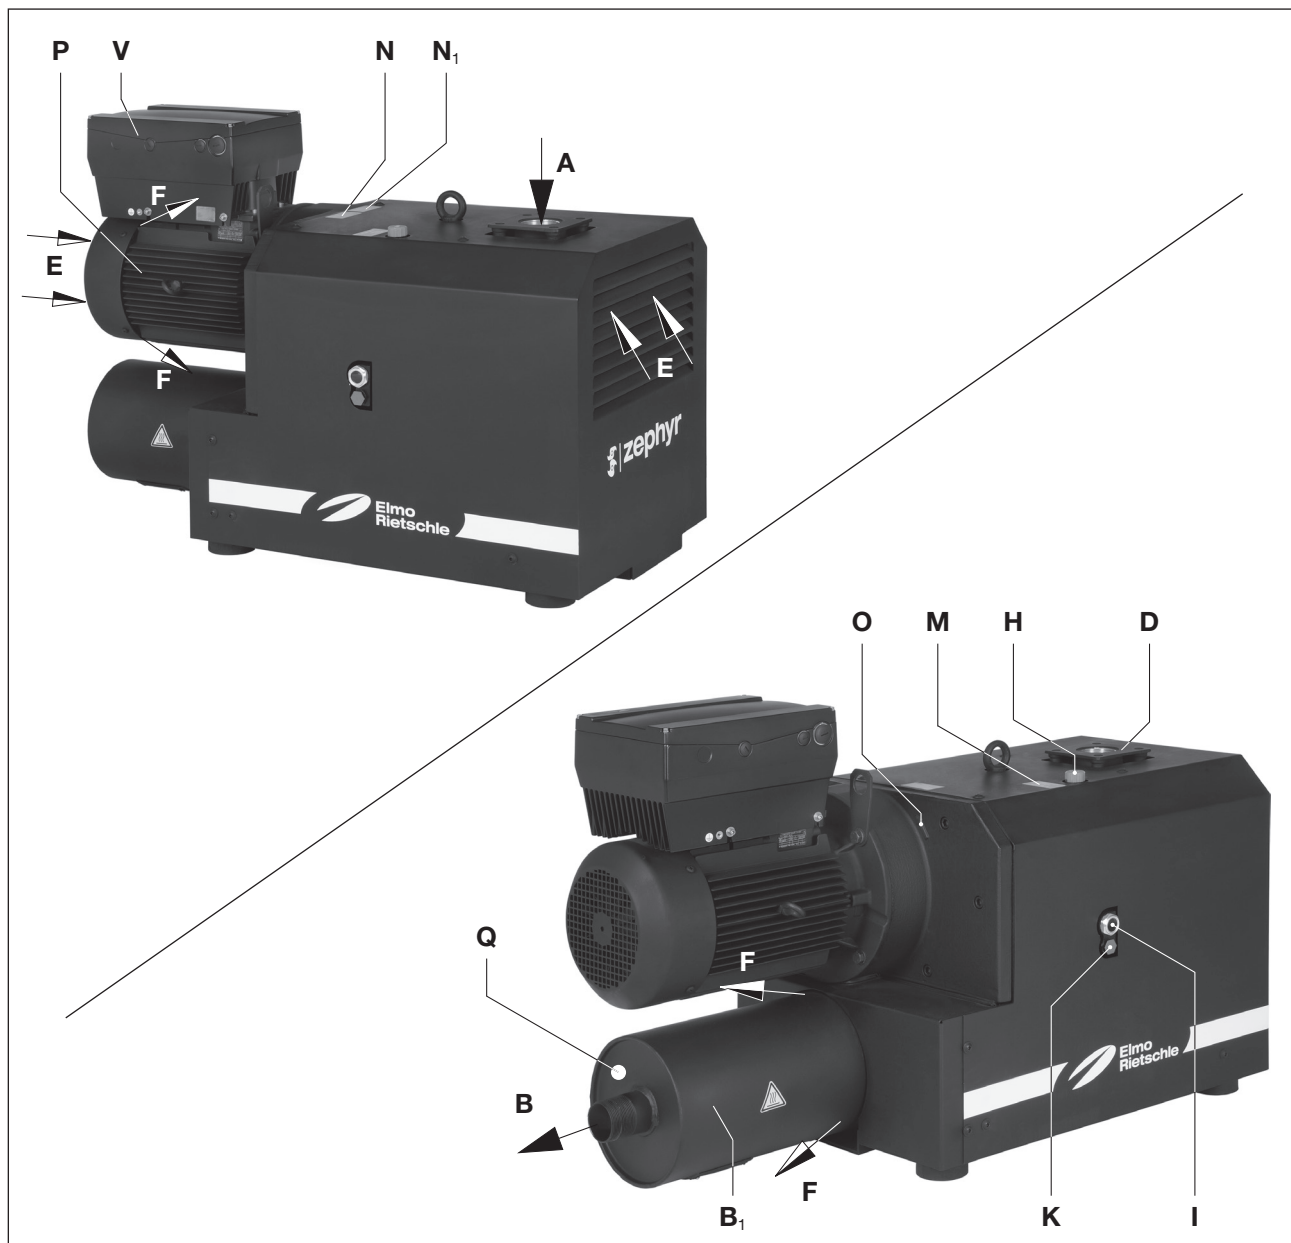

Fig. 2 Vacuum pump C-VLR 301 (F001)
- the machine must only be operated at speed- and frequency range according to the data plate (Fig. 2/N1)
The C-VLR 301 (F001) model has a connection flange on the inlet side and an exhaust silencer on the pressure side (Fig. 2/B1). The C-VLR 301 (F002) model has a vacuum gauge (Fig. 2/Y), a suction filter (Fig. 2/S1) on the inlet side and an exhaust silencer on the pressure side (Fig. 2/B1). An integral non-return valve prevents the evacuated system from being ventilated after the pump has stopped.
The gearbox and the compression chamber are separated from each other by special seals. The gearbox is sealed from the outside with shaft seals and O rings, the compressor chamber with piston rings. The VLR 301 is enclosed in an insulating hood. In order to dissipate compression heat, the cooling air is sucked through between the machine and the hood using a drum fan that sucks in the fresh cooling air (Fig. 2/E) and discharges the heated air out of the cooling air outlet (Fig. 2/F).
Three-phase motor with integral frequency converter (Fig. 2/V) makes possible infinitely variable control of the speed.
The oil filling point (Fig. 2/H), oil sight glass (Fig. 2/I) and the oil outlets (Fig. 2/K) must be easily accessible. The cooling air inlets (Fig. 2/E) and the cooling air outlets (Fig. 2/F) must be at least 30 cm away from adjacent walls. Cooling air coming out must not be sucked in again. For maintenance work there must be a minimum of 40 cm in front of the inlet filters (Fig. 2/S1, 2/S2).
- a) Connect the vacuum line (Fig. 2/A).
- b) The extracted air can be discharged through the exhaust silencer (Fig. 2/B) or conducted away via a pipe.
When the machine is at operating temperature the surface temperatures on the components (Fig. 2/Q) may go above 70 °C. You must avoid touching the hot surfaces (marked with warning plates).